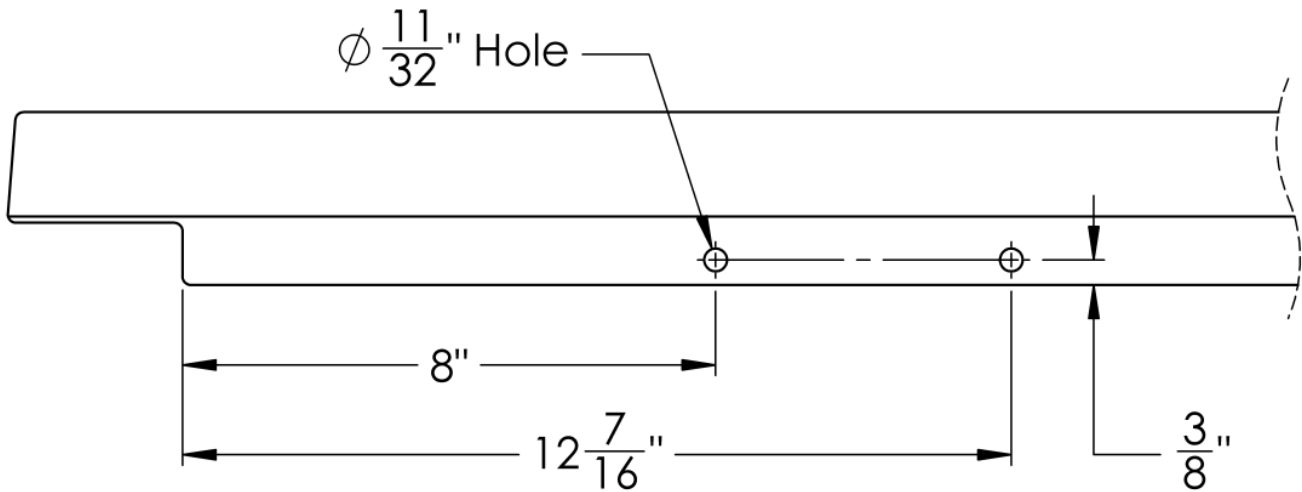

Figure 2: Left side hole locations
STEP 2: Using a tape measure and marking device, mark the two left side hole locations as shown in Figure 2.